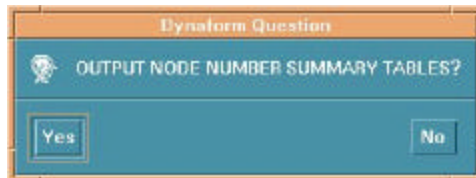

Figure 6.4.4 Node Number Table Question
- A DYNAFORM Question window appears, see Figure 6.4.4.